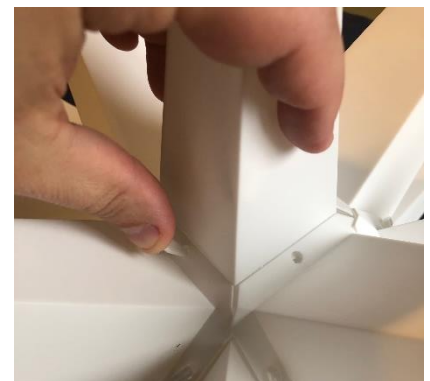

Figure 8: Installing Fasteners
- Align the tabs of the top star so that the holes in the tabs align with the holes in the other points. Once aligned, gently pull up on the top point while pressing the 4 fasteners into the holes, Figure 8. Press the fasteners into place until they snap securely into place.